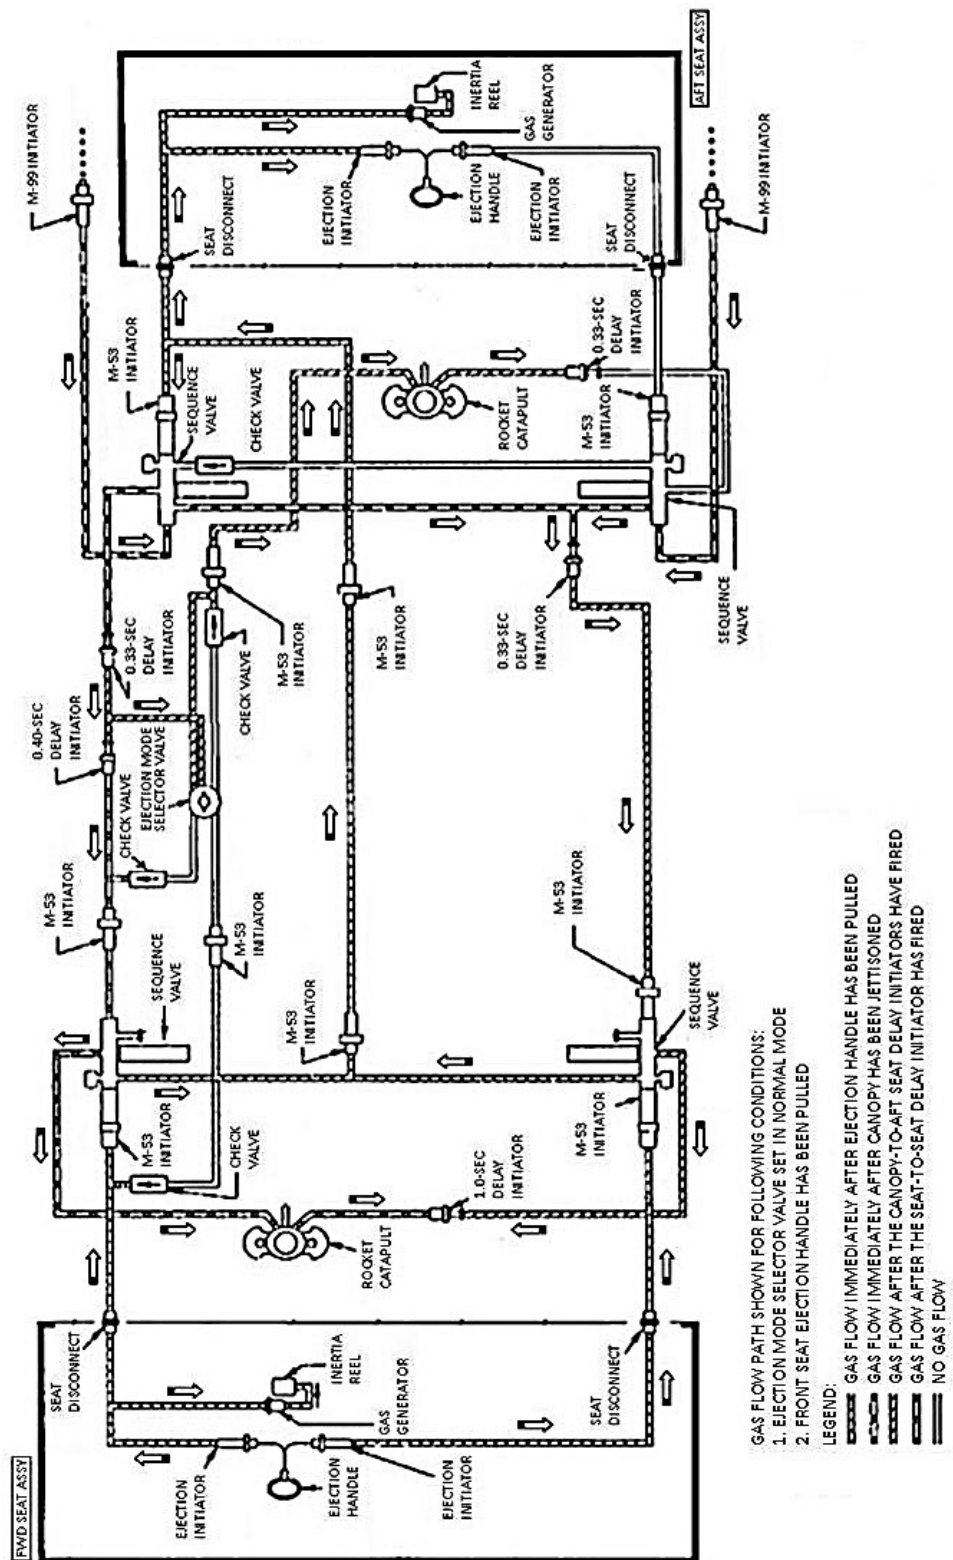

Figure 3-19. F-16 escape system schematic.
be impractical to list them all in this CDC. Therefore, we will discuss only the more common ones. For each escape system schematic, read the legend to determine how the graphical symbols relate to the system. Figure 3-19 shows a schematic for the F-16 escape system schematic.
2. Using the schematic from figure 3-19, determine what F-16 egress component fires the 0.40-second delay initiator.
3. Using the schematic from figure 3-19, determine what F-16 egress component fires the aft seat's rocket catapult.
4. Concerning the schematic from figure 3-19, what does a series of five dots represent?